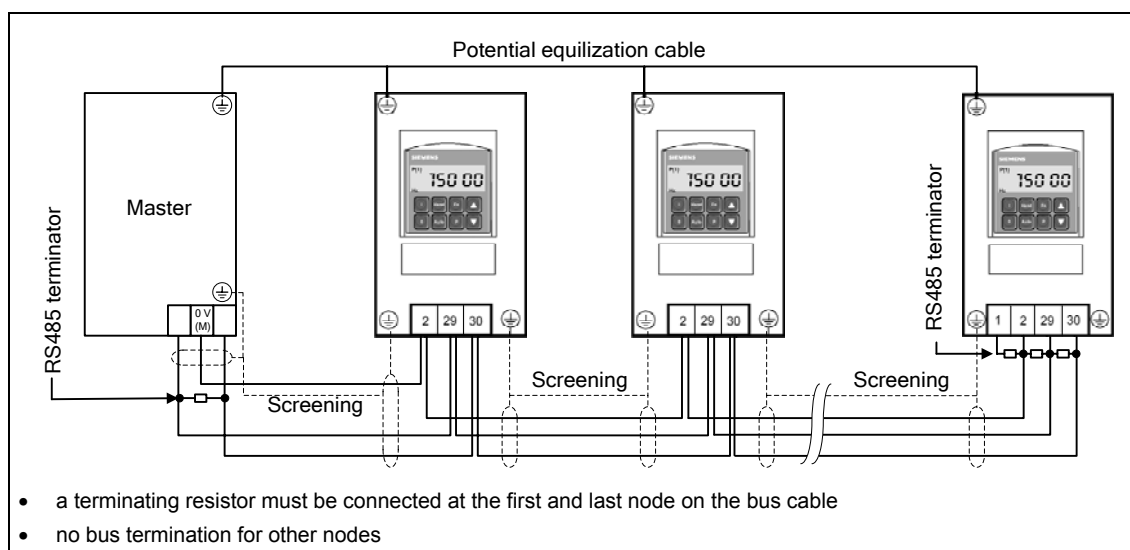
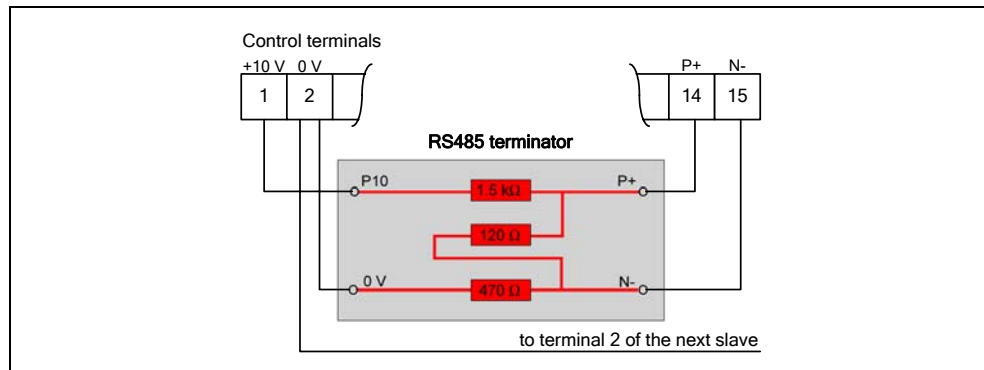

Fig. 3-40 Connecting the USS bus cable
Fig. 3-41 Connecting the RS485 terminator
2. A terminating resistor between P+ and N- at both bus ends (refer to Fig. 3-41)
If the frequency inverter is the last slave on the bus (refer to Fig. 3-40), then the P+ and N- of the RS485 terminator provided must be connected there to the RS485 terminals (refer to Fig. 3-41). P10 and 0 V can be connected to terminals 1 and 2 for the power supply.